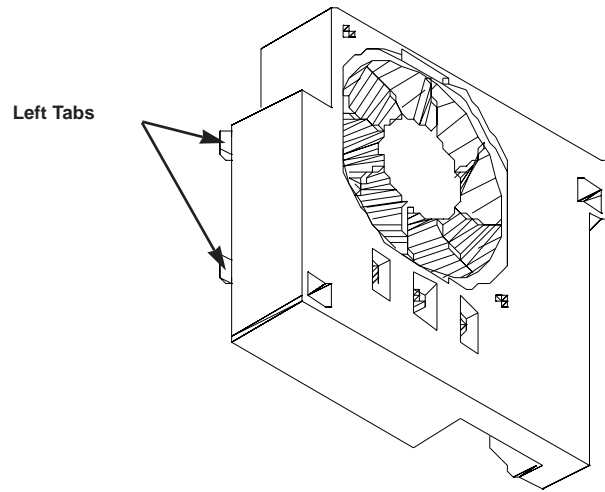
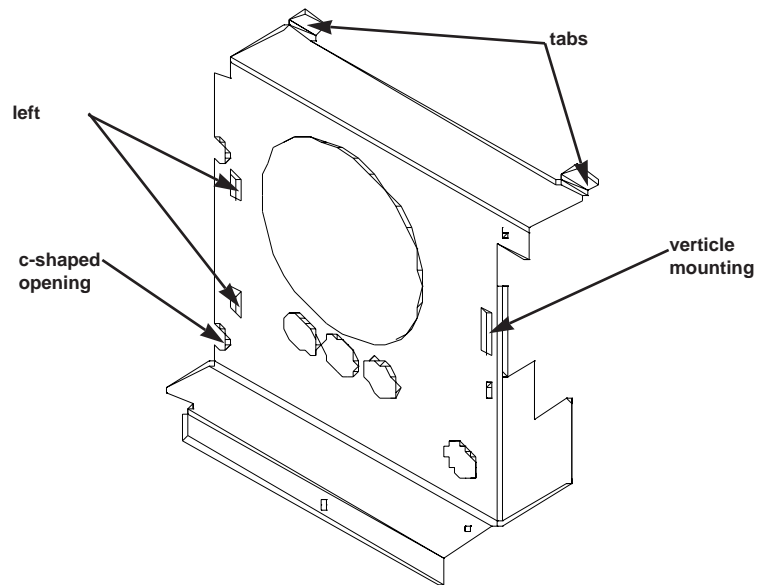

Figure 4-1: Fan Housing
Figure 4-2: Fan Bracket
- *Removing the Fan Housing (refer to figure 4-1 and figure 4-2):*
- *Installing the Fan Housing (refer to figure 4-1 and figure 4-2):*
- *Removing the Fan Bracket (refer to figure 4-2):*
• **Installing the Fan Bracket (refer to figure 4-2):**